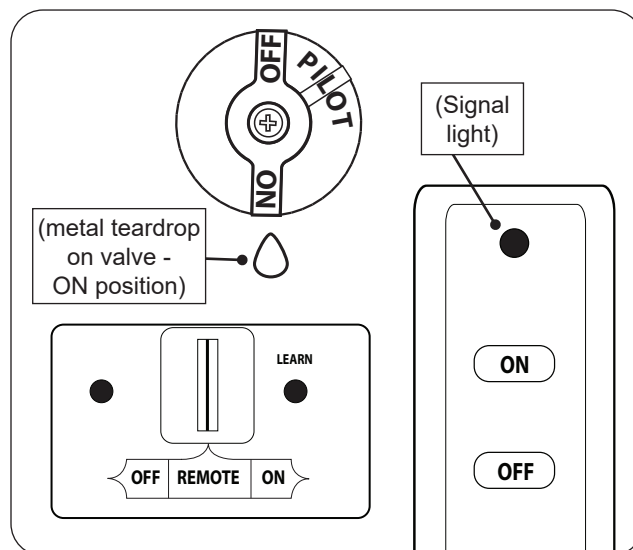

Fig. 29-1 Remote lighting
1. Ensure the pilot is burning. Turn the control knob counterclockwise ↶ to **ON** (see Fig. 29-1).
2. Locate the 3-position switch on the remote receiver, and slide the switch to **REMOTE** (see Fig. 29-1).
3. Locate the remote transmitter and press the **ON** button (see Fig. 29-1). The ignition sequence will begin.